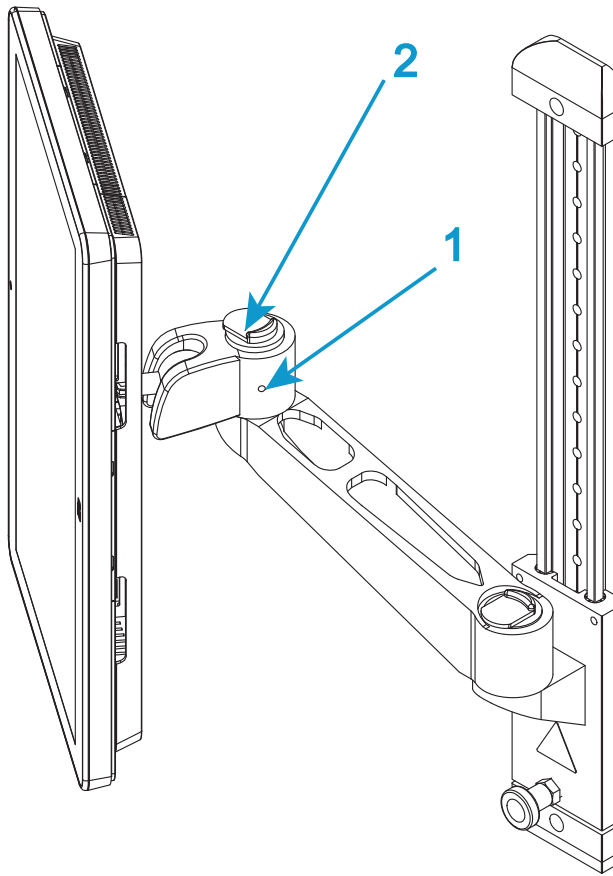
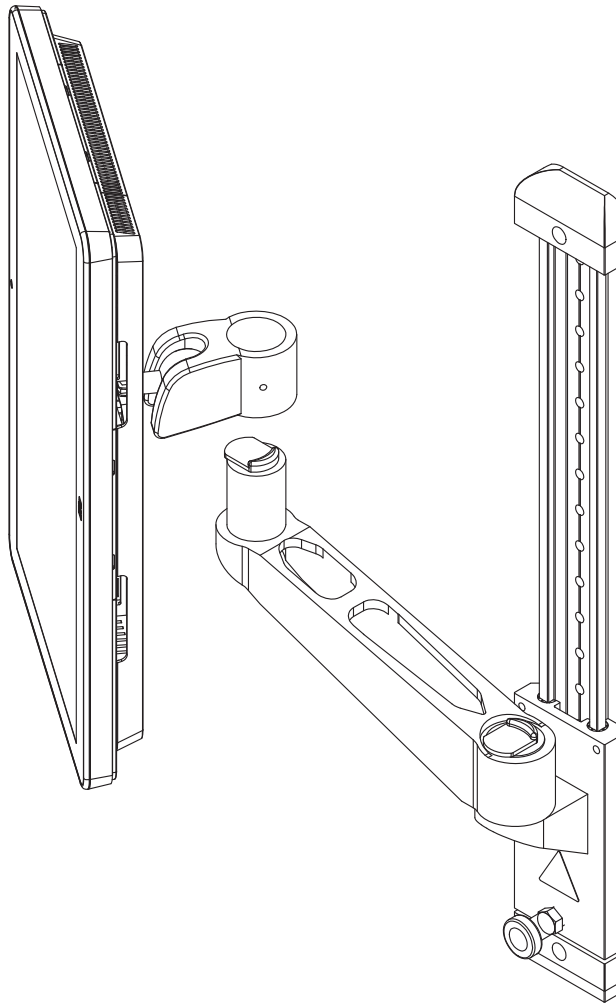

Figure 12. Mounting arm
Figure 13. Lift to remove
3. If necessary, loosen the set screw on the side of the “elbow” on the mounting arm (1 in Figure 12 on page 49).
4. Operate the release mechanism on top of the “elbow” (2 in Figure 12 on page 49) and lift the Bluehill® Operator Dashboard clear of the mounting arm (Figure 13 on page 50).